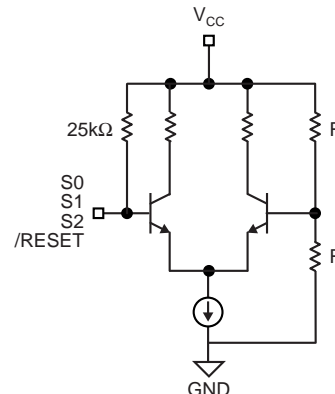

Figure 2b. Simplified TTL/CMOS Input Buffer
**Note 4.** Measured as per Figure 2b.